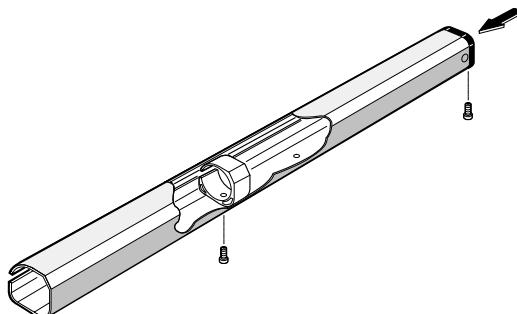
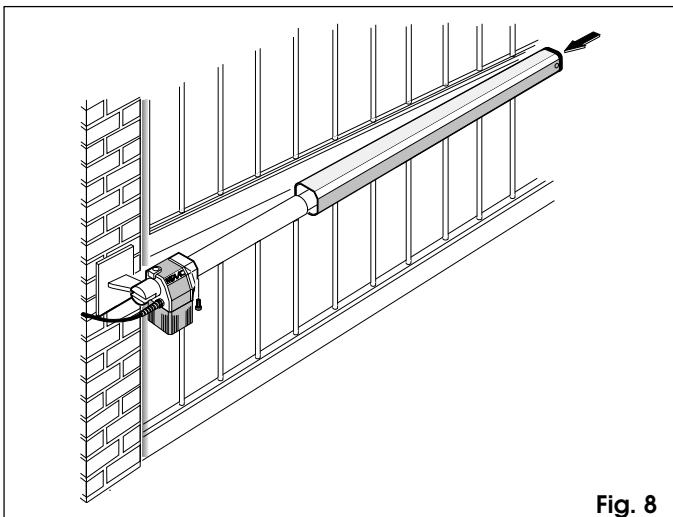

Fig. 7
Fig. 8
- 12) Fit the cover (fig. 7) on the operator as shown in fig. 8.
- N.B.:** Fix the guide support of the cover on the hole furthest from the cap (fig.7).